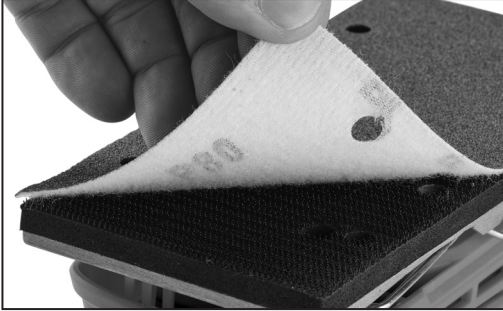

FIG. 2
6.2 ABRASIVE SHEET INSTALLATION/ REPLACEMENT – FIG. 2